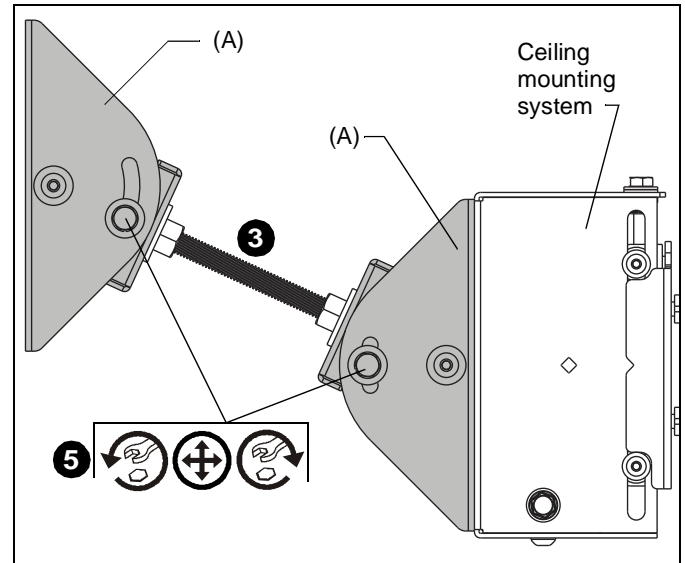

Figure 3
3. Attach a second threaded rod stabilizer accessory (A) to the opposite end of the threaded rod, using the appropriate hardware. (See Figure 3)
5. Adjust the FMSSTRM angle so that stabilizer accessory is seated flat against the ceiling or wall. (See Figure 3)
- Loosen lock nuts on each side of stabilizer accessory (A)
- Adjust angle of stabilizer accessory (A)
- Tighten lock nuts on each side of stabilizer accessory (A).
6. Mark locations for fasteners through the stabilizer accessory (A) mounting holes.